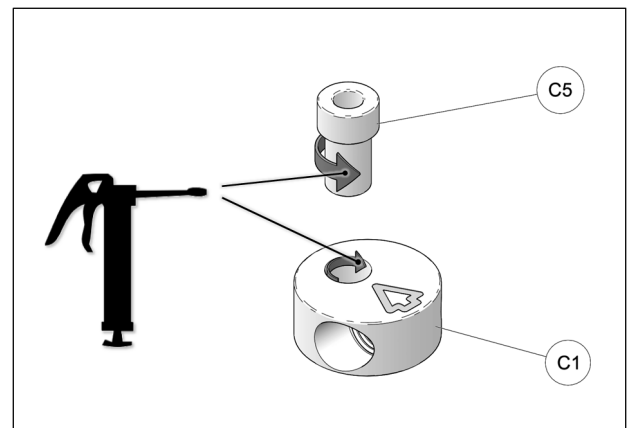

Fig. 24
- Apply grease evenly all around step spacer bushing (C5) and in hole of aluminum disk (C1) when assembling these parts together. See Fig. 24